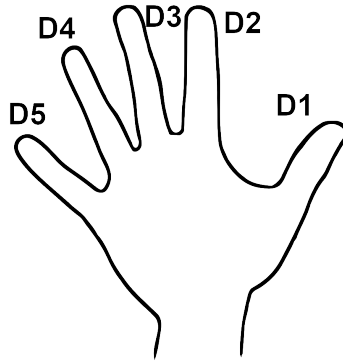

FIGURE 1: Numbering scheme used for finger naming.
**Digits:** The digits are referred to by standard numbering, beginning with the thumb as D1 as shown in Figure 1.